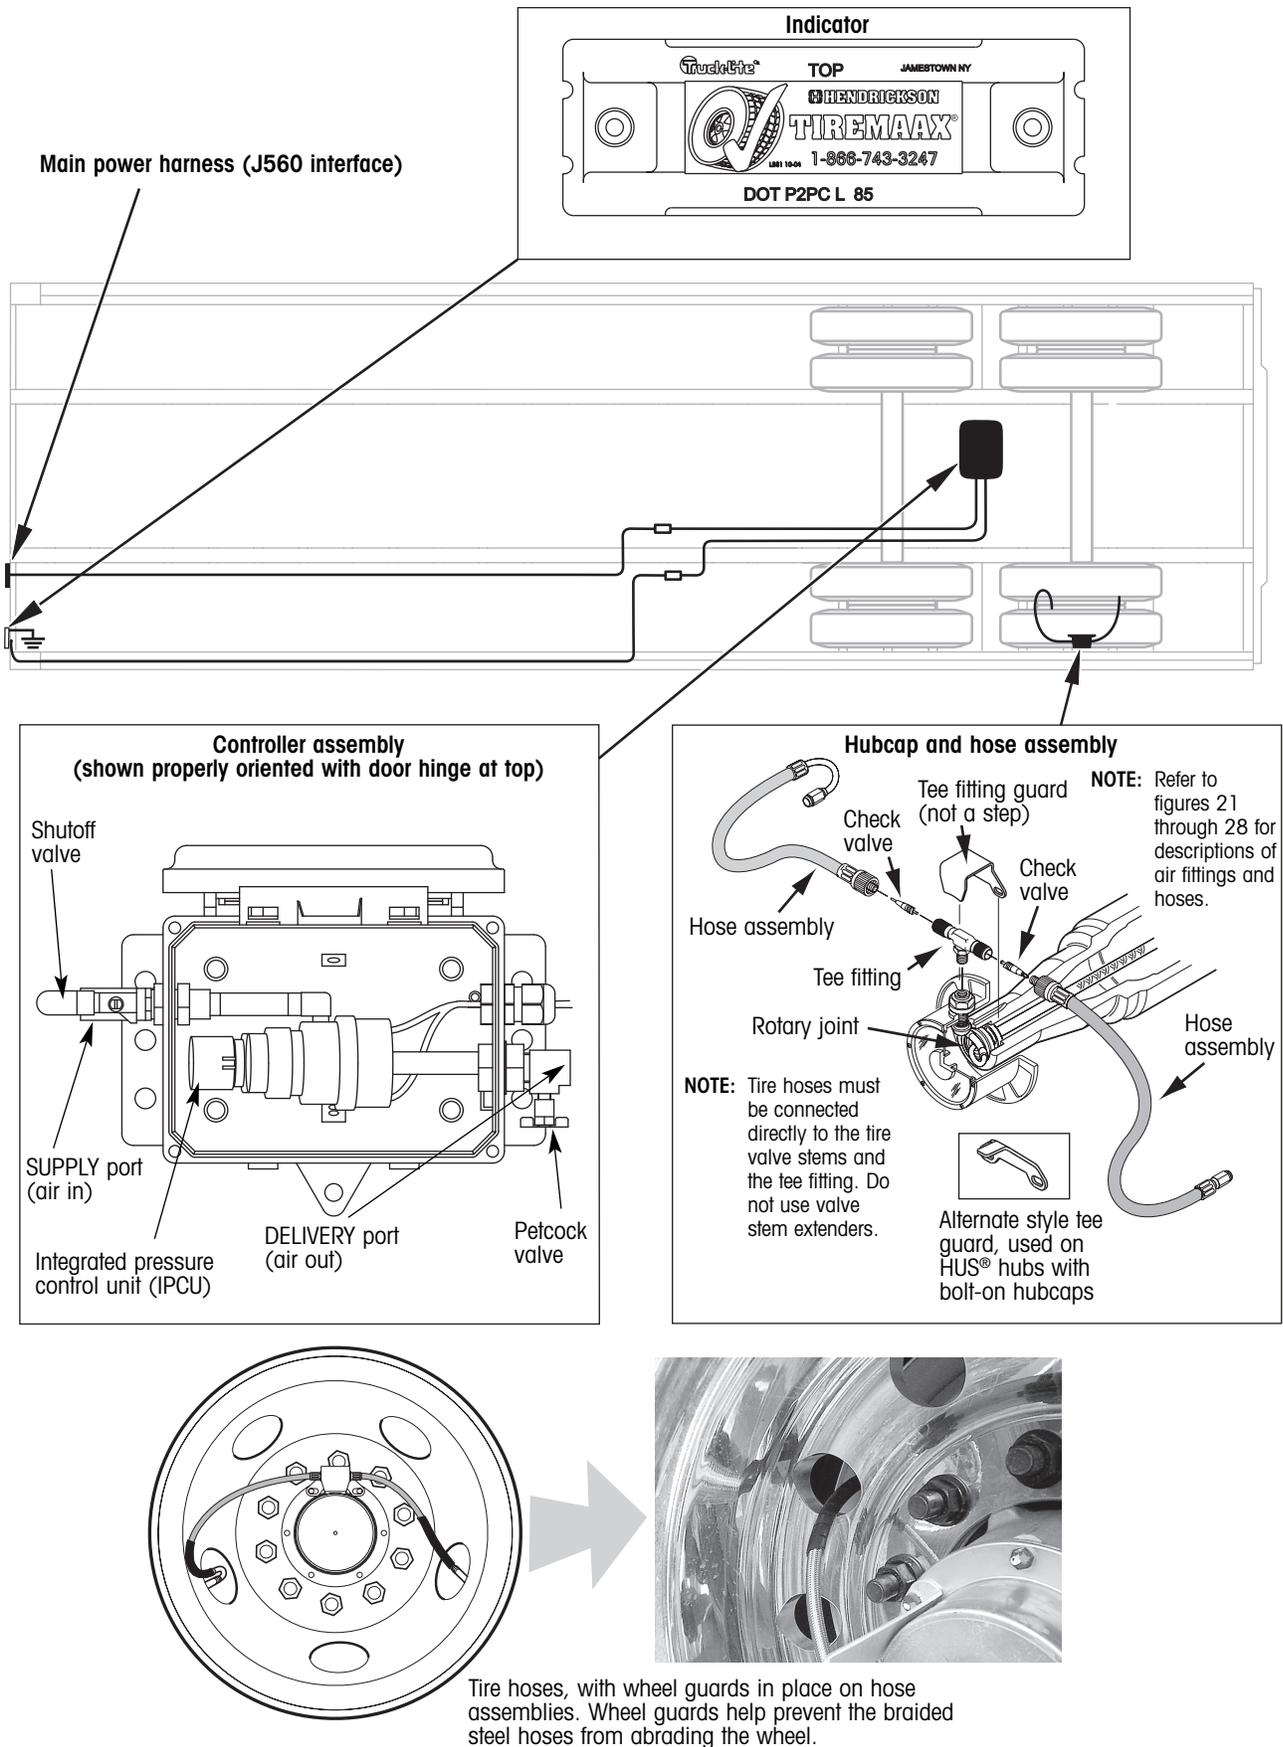

Figure 3. TIREMAX® CP components
Refer to figure 3 for major TIREMAAX® CP component illustrations. Refer to figures 21 through 28 for a complete description of air fittings and hoses.
- has separate supply side (SUPPLY) and delivery side (DELIVERY) ports, see figure 3